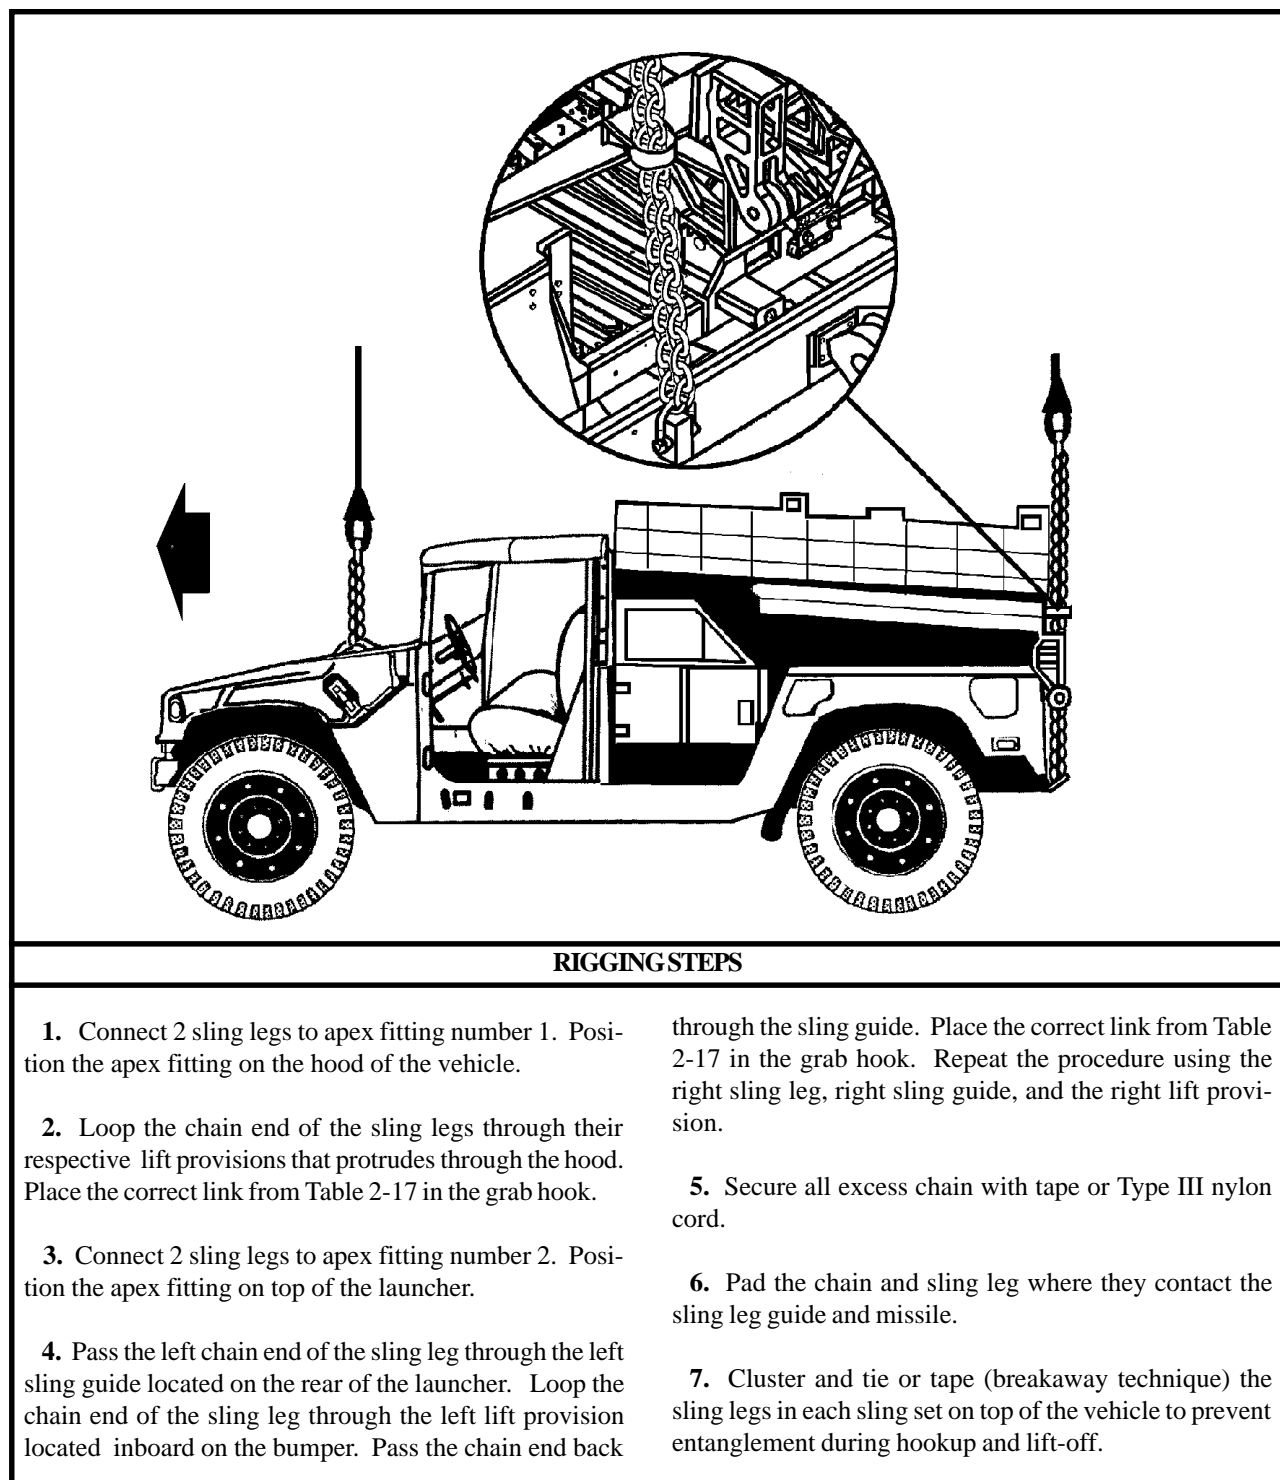

Figure 2-16. M1097 (H-HMMWV) With Enhanced Fiber Optic Guided Missile (EFOGM) Launcher
(2) **Rigging.** Rig the load according to the steps in Figure 2-16.
(4) **Derigging.** Derigging is the reverse of the preparation and rigging procedures in steps d (1) and d (2).